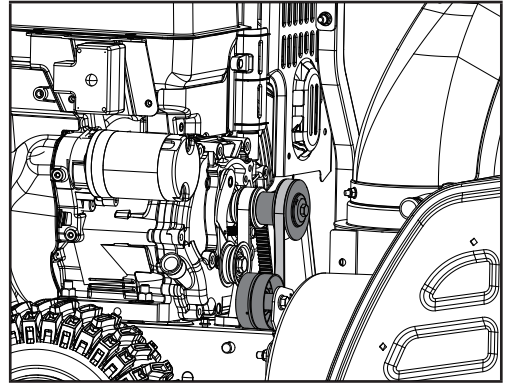

Figure 28
9. With the belt properly placed on both the front pulley and the auger drive pulley, pull the auger idler pulley back away from the belt and slip the belt inside the pulley. You can pull the recoil to rotate the pulley to help get it seated (Fig. 28).